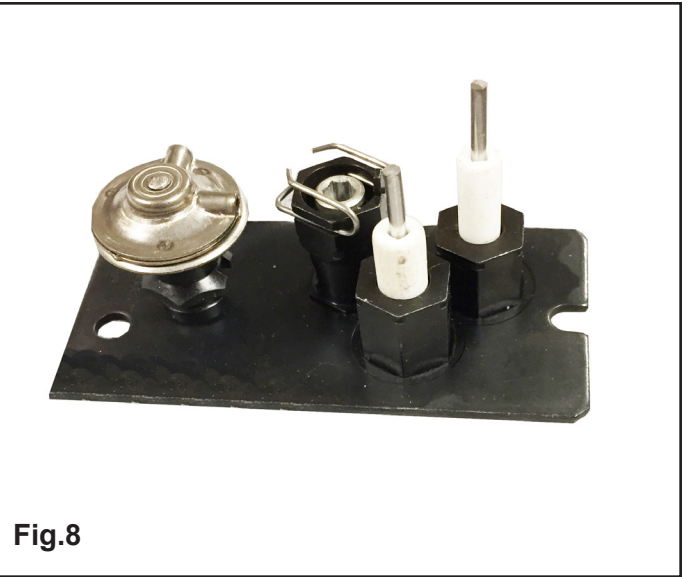

Fig.8
1. Remove the spring clamped hood from pilot and set aside (**Fig. 8**).